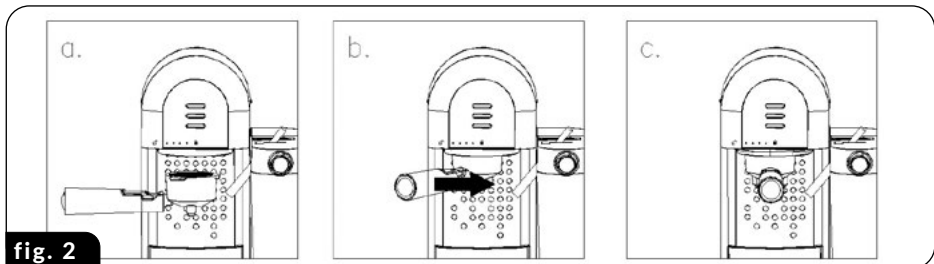

fig. 2
1. Place the portafilter (10) with the installed filter (13) in the portafilter mounting slot (5) so that the portafilter holder (12) aligns with the open padlock symbol on the front panel of the coffee maker (fig.2).